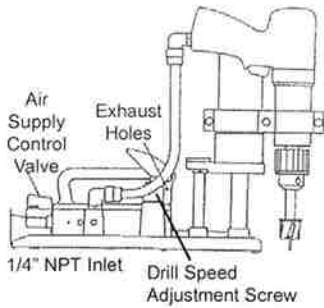

Figure 5
8. Close the RED air supply control valve located on the air inlet of the vacuum base. **See Figure 5.**
9. Connect a filtered air supply hose to the 1/4in. NPT air inlet. **See Figure 5.** Air supply hose should have a minimum I.D. of 5/16 in. (8 mm) and an operating air pressure range of 75-120 psi (5.2-8.3 bar). Note: An air pressure gauge can be installed between the air inlet of the vacuum base and the air line fitting. This will give a good indication of the inlet air pressure while using the unit.
10. If necessary, turn on air supply. Open air supply control valve located on vacuum base. Note: Small amount of air may be heard from the exhaust outlet located in the front of the handle. *See Figure 5.* This is normal. Do not block outlet.
When the drill feed adjustment knob (**See Figure 5**) is turned down (clockwise) fully, the thumb pressure on the drill feed lever has the ability to produce up to 154 lb (70 kg) of direct drilling force. In many cases, 154 lb (70 kg) is too great for obtaining the optimum drilling force. The drill feed adjustment knob allows the pressure of the drilling force to be reduced from 154 lb (70 kg) down to 0 lb (0 kg) by turning the knob completely to the up position (counterclockwise).